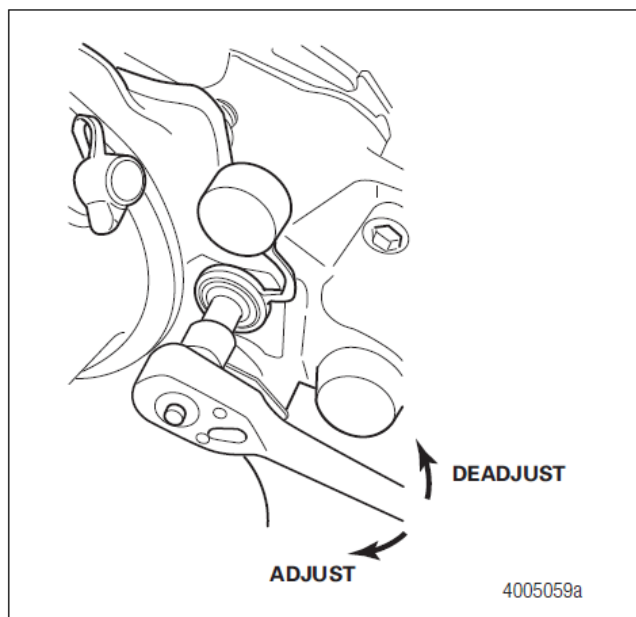

Figure 5.14
1. For disc brake wheel ends, back off the brake caliper until the rotor is clear from the pad linings about 1/16-inch (1.588 mm) gap or more. Refer to Maintenance Manual MM-0467, DiscPlus™ EX225 Air Disc Brake, for more information about EX225 disc brake inspection and adjustment. To obtain this publication, refer to the Service Notes page on the front inside cover of this manual. Figure 5.14.